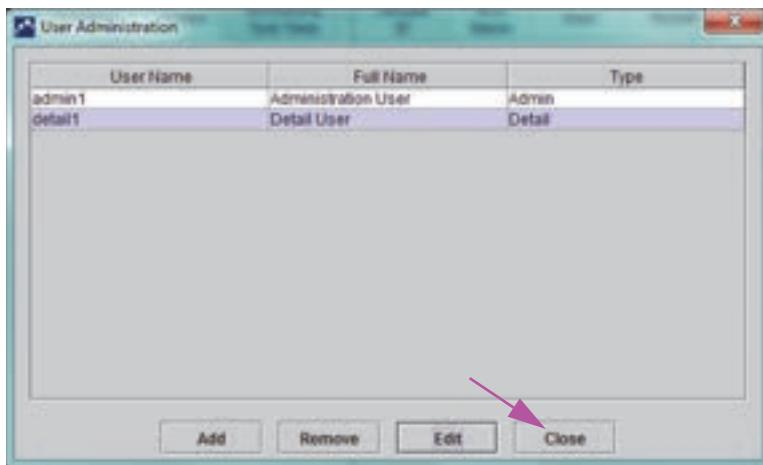

Figure 2-76. User Admin Dialog Box after User Removal
3. Click **Remove**. The user is removed. See Figure 2-76.